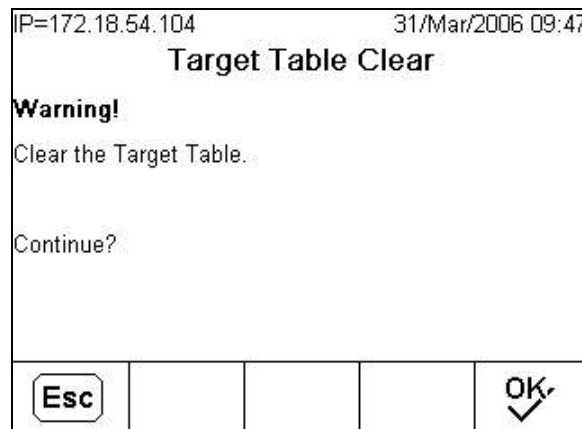

Figure C-28: Clear Target Table Warning Screen
1. Press the CLEAR softkey  when viewing the first setup page for the table in Setup at Application > Memory > Target Table. The screen is shown in Figure C-28.